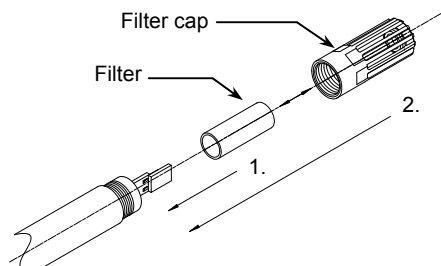

Figure 24. Attaching new filter and filter cap
- 3) Cover the sensing element with the new filter ('1' in Fig. 24) and then with the new filter cap ('2' in Fig. 24).